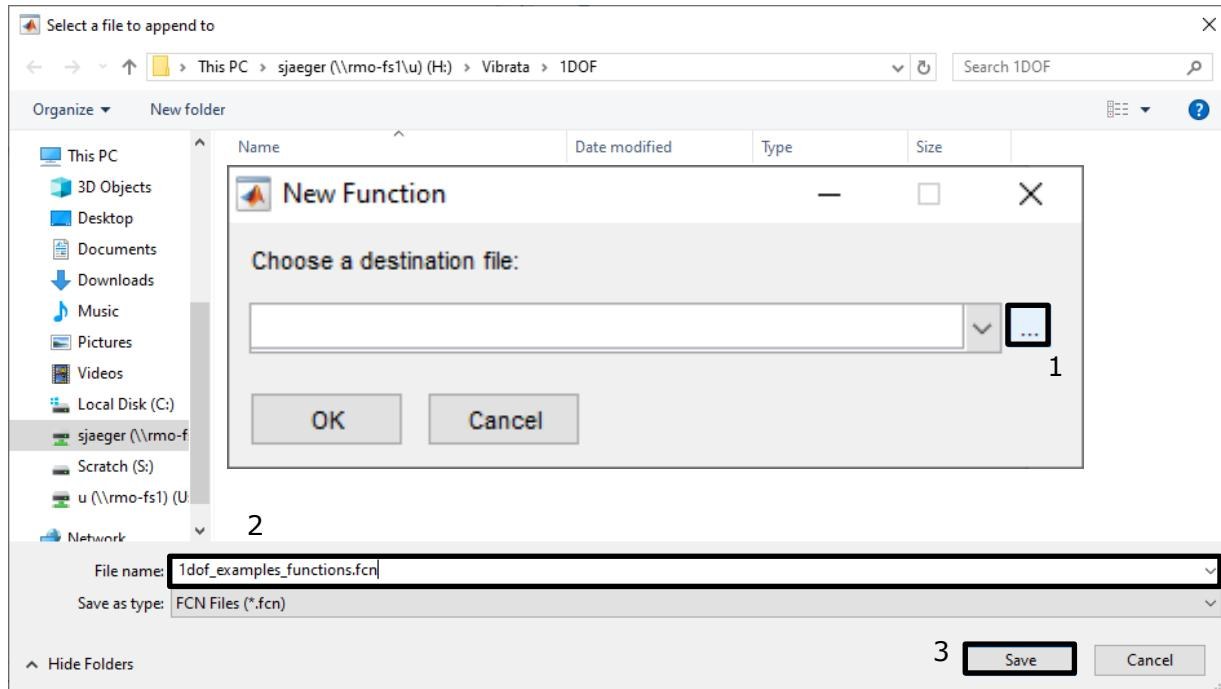

Figure 4-13. Save excitation function to new function file.
d. Click the **Create** button to save the new function into an *fcn* file. Call this file “1dof_examples_functions.fcn” and place it in the 1dof folder (Figure 4-13).